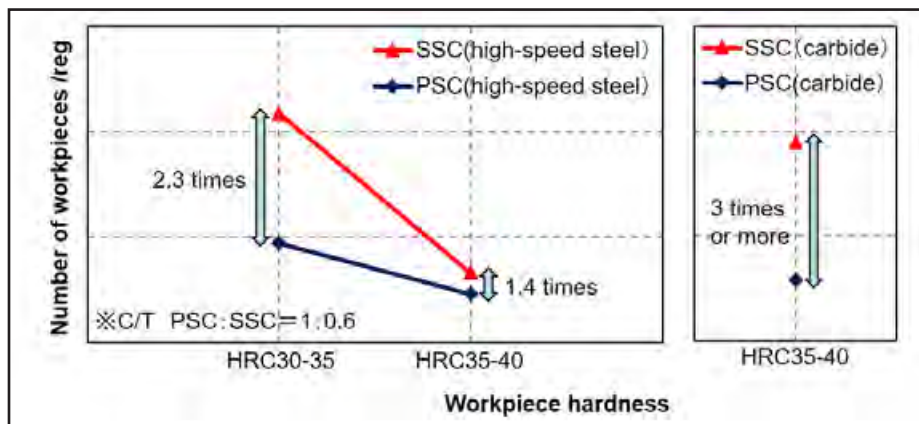

Figure 10 Comparison of performance between PSC and SSC.
- 1.As can be seen in Figure 10, the difference in tool life between PSC and SSC depends on workpiece hardness.